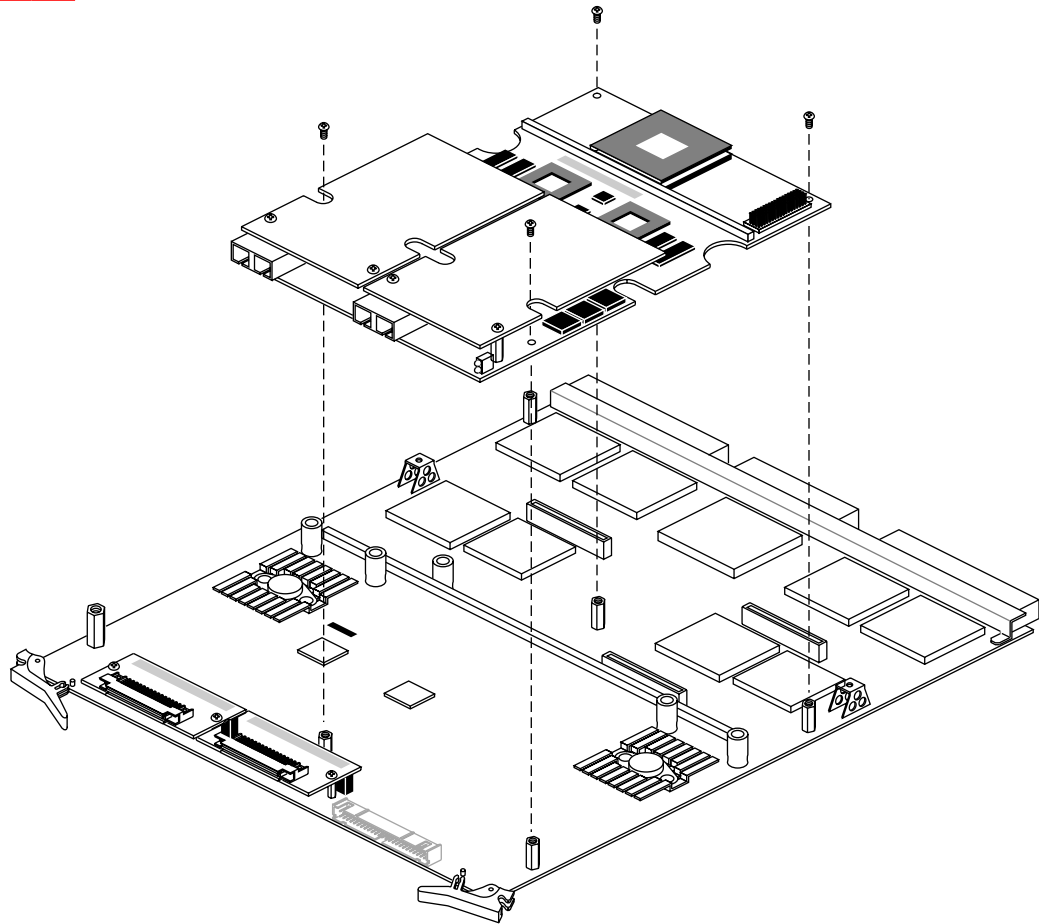

Figure 3-4 Connecting FDDIXPress Mezzanine to the IO4 (SAS Board Shown)
6. Carefully remove the IO4 board chosen to hold the FDDIXPress mezzanine board, and position it on a flat antistatic work surface, as illustrated in Figure 3-4.
7. Place the FDDIXPress mezzanine board onto the selected IO4 mezzanine position so that the connector on the bottom of the motherboard matches the receptacle on the IO4 board and the standoffs match the holes in the FDDIXPress board (see Figure 3-4).
7. Place the FDDIXPress mezzanine board onto the selected IO4 mezzanine position so that the connector on the bottom of the motherboard matches the receptacle on the IO4 board and the standoffs match the holes in the FDDIXPress board, as illustrated in Figure 3-4.